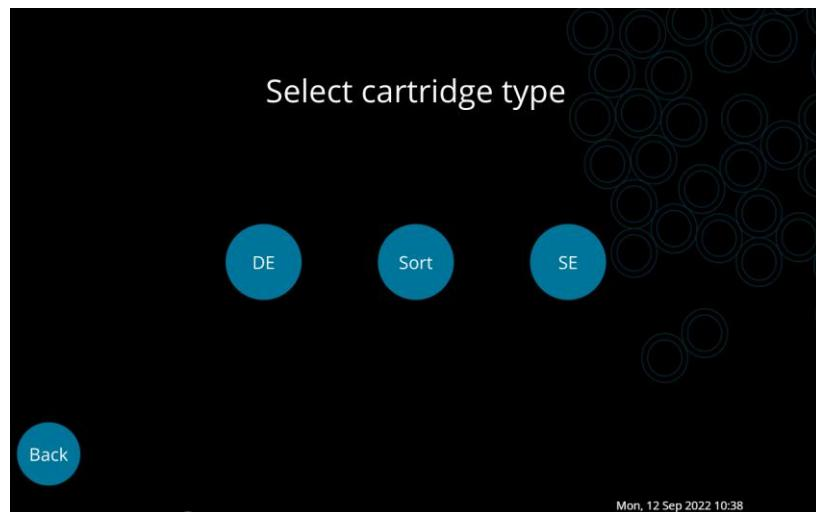

Fig. 2.8. The Xdrop Sort **Select cartridge type** screen. Select **DE** for DE20 droplet runs.
5. Xdrop Sort can operate with either Xdrop DE20, DE20 Sort, or Xdrop SE85 Cartridges. Choose the DE20 droplet option by selecting **DE** on the touchscreen (Fig. 2.8).